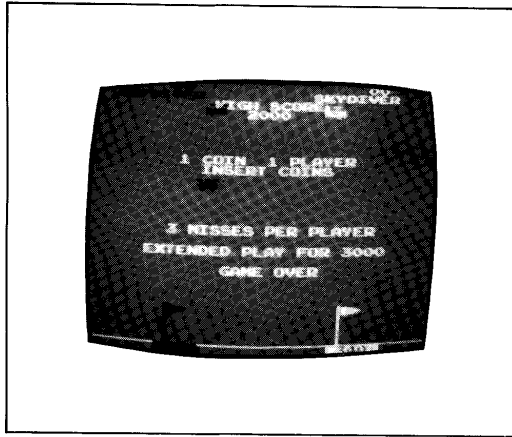

Figure 2-1 Attract Mode
A. ATTRACT MODE (See Figure 2-1)
During the attract mode, the TV monitor screen displays the planes and little men jumping out to their targets. Note that Figure 2-1 has the black chute, but no little man, a blue man, but no chute. This occurs as a result of photograph and TV frame synchronization...it is not an actual visual display. The TV screen also displays the previous game scores, the standing high score, the point total required for extended play, the credits, and the cost per play. The player controls and sounds are inactive during this mode.